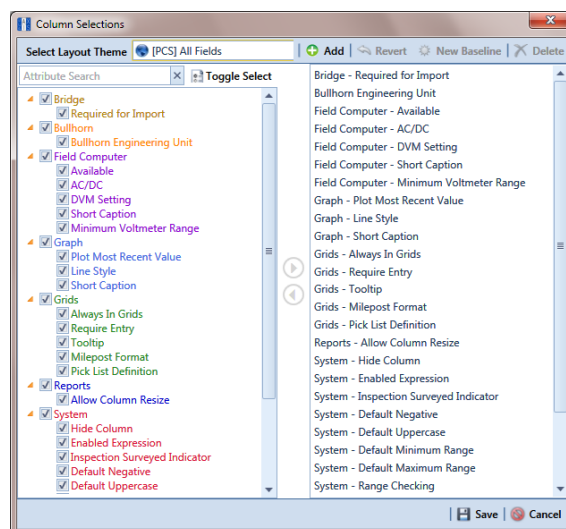

Figure 3-30. Column Selections
- 2 Click  **Customize** to open the *Column Selections* dialog box (Figure 3-30).